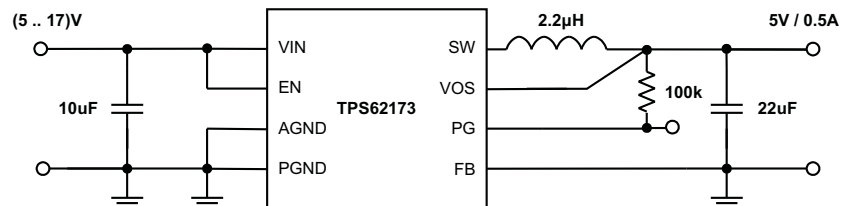
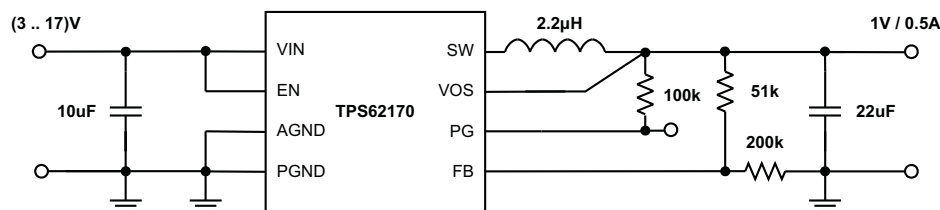

Figure 34. 5V/0.5A Power Supply
Figure 40. 1V/0.5A Power Supply
- Changed 50mV/s to 50mV/μs in Enable / Shutdown (EN) section 15
- Changed 1A to 0.5A in Figure 34 to Figure 40 figure titles 22